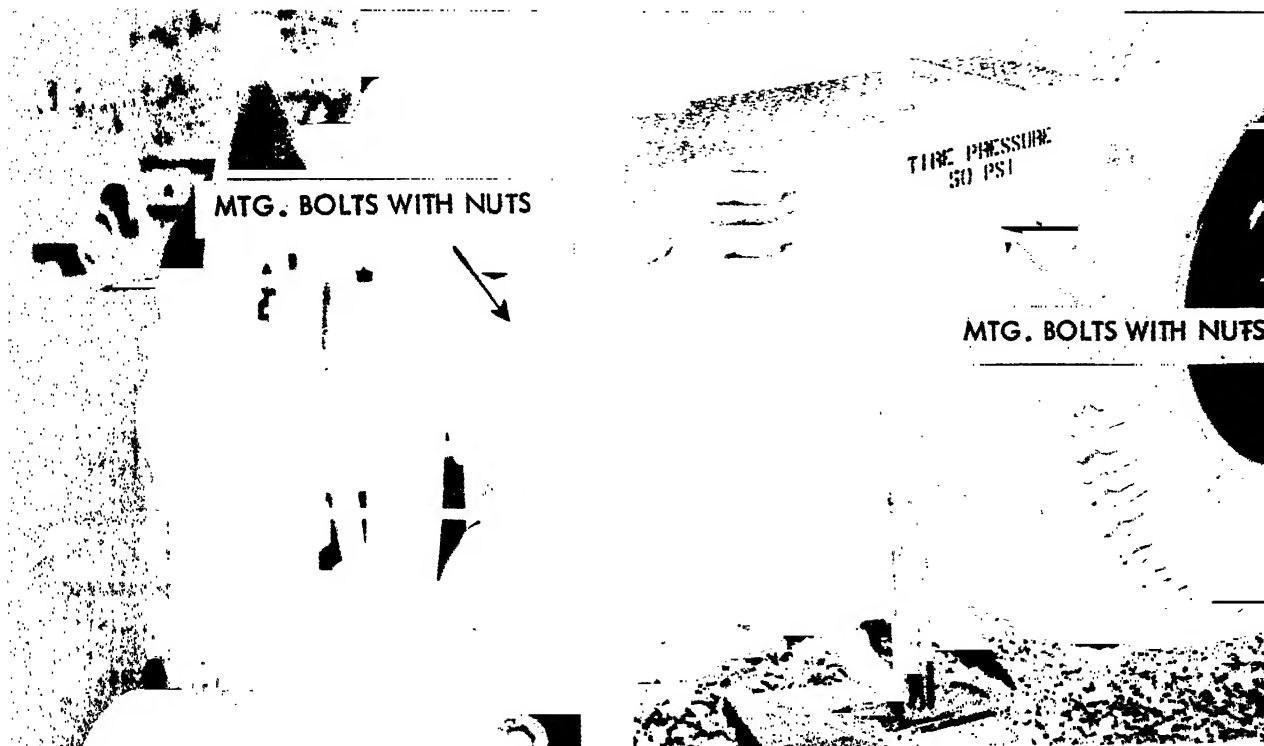

FIGURE 47. REMOVAL OF MUD GUARDS AND CABLE REEL
- a. Removal. Refer to Fig. 47 and remove the mud guards.
- c. Installation. Refer to Fig. 47 and install the mud guards.
- a. Removal. Refer to Fig. 47 and remove the cable reel.
- c. Installation. Refer to Fig. 47 and install the cable reel.